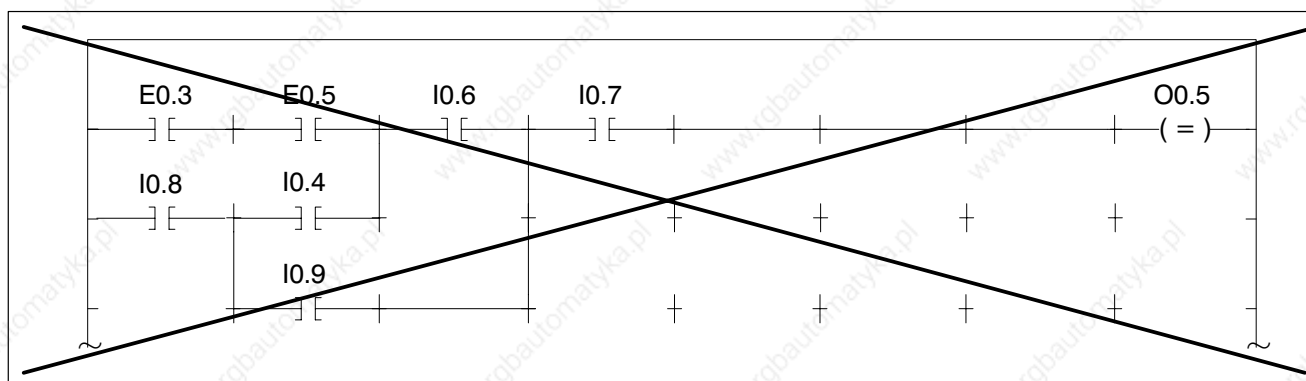

Fig. 3–14 Forbidden bridge circuit
- Bridge circuits (Fig. 3–14) are **not permitted**.